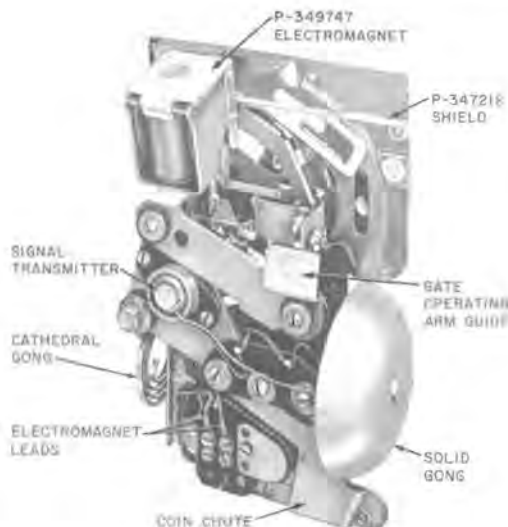

Fig. 24—Gong Signal and Chute Assembly
5.10 Generally, the gong signal and chute assembly (Fig. 24) consists of a coin chute, including electromagnet, and a gong assembly with signal transmitters.
5.21 The gong assembly is mounted on the coin chute, as shown in Fig. 24. It consists of a supporting bracket on which are mounted the two gongs and their associated signal transmitters. The solid gong for nickel and dime signals and one signal transmitter are mounted on a metal plate. The cathedral gong for quarter signals and the second signal transmitter are mounted on a bracket. The two units are insulated against vibration from each other and from the coin chute by use of rubber grommets at all mounting points. The support bracket also provides a guide to protect the switchhook gate-operating arm from damage when the upper housing is assembled on the backplate.